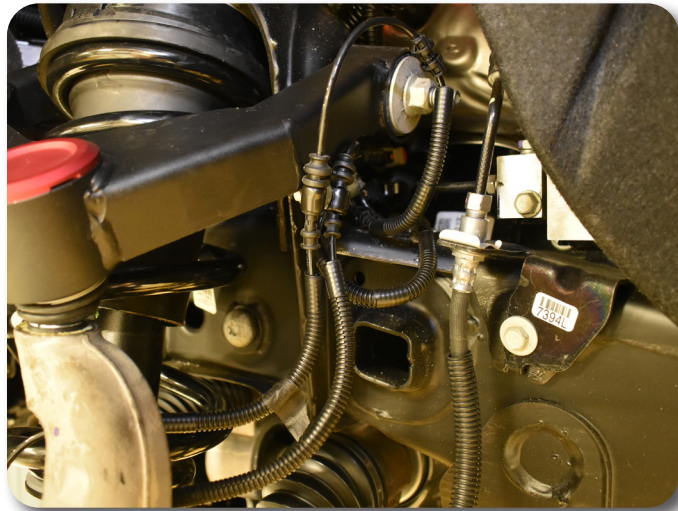

Figure 15
23. Reattach the brake wire / ABS wires to the factory position on the knuckle **Figure 15**. Use the provided wire clamps and 1/4" bolt to attach the brake wire / ABS wire to the upper control arm. Check for enough slack in the wires and adjust as necessary.